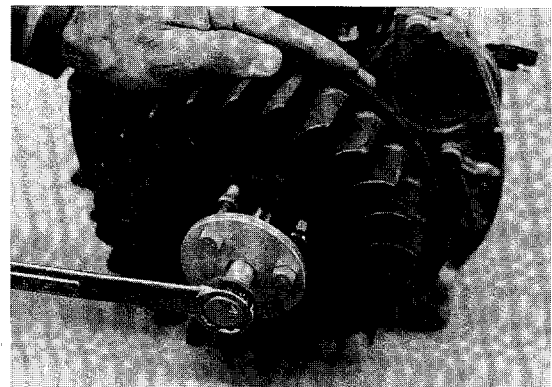

Figure 6-28
2. Attach puller, CLUB CAR part number 1012802, to flywheel and remove (Figure 6-28).